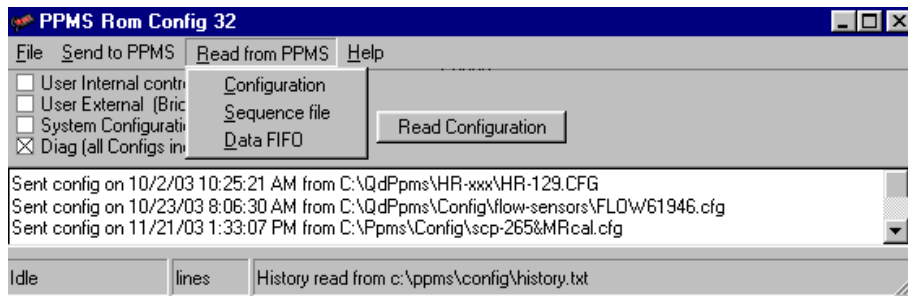

Figure 6. Menu for reading the Model 6000 configuration
3. At the main menu bar in the top of the **PPMS Rom Config 32** dialog, open the **Read from PPMS** dropdown menu (Figure 6).
7. When the upload has been completed, the **PPMS Rom Config 32** dialog will report the transfer and date, as shown in Figure 6.